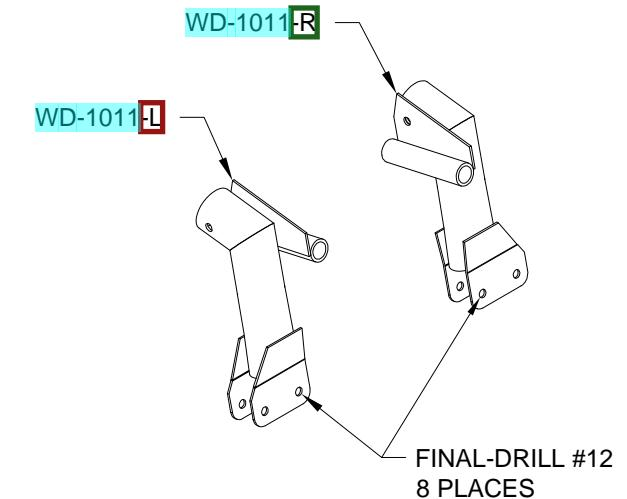

FIGURE 3: FINAL-DRILL CONTROL STICK BASES
Step 3: Final-Drill the **WD-1011-L** Left Control Stick Base and the **WD-1011-R** Right Control Stick Base as shown in Figure 3.